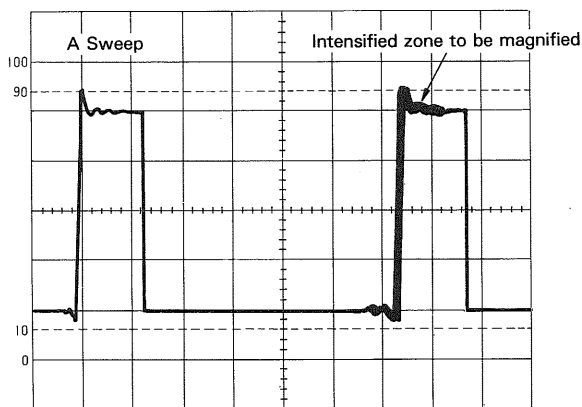
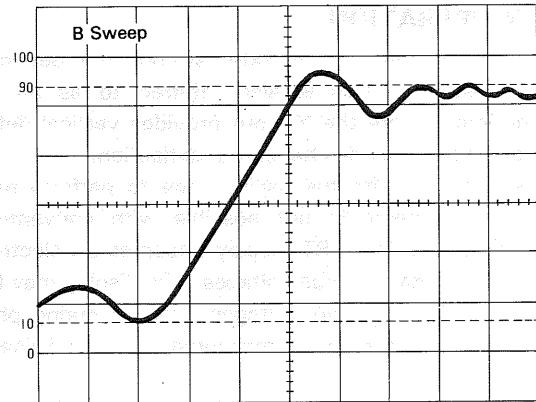

Fig. 12
Fig. 13 Magnified view of intensified zone above
2. Set the B sweep in the STARTS AFTER DELAY mode. Set the HORIZ DISPLAY to the INT mode and the B sweep will appear as an intensified portion of the A sweep. The length of the intensified portion is adjusted by the B SWEEP TIME/DIV control. (Fig. 12)
3. Shift the intensified portion of waveform (section to be magnified) along the A sweep by use of the DELAY TIME MULT ③⑤.
4. Set the HORIZ DISPLAY to B to display the INT intensified portion as a magnified B sweep. (Fig. 13)